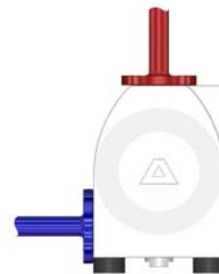

fig. 8.3
- Suction inlet horizontally at the bottom, the discharge outlet vertically at the top (figure 8.3)